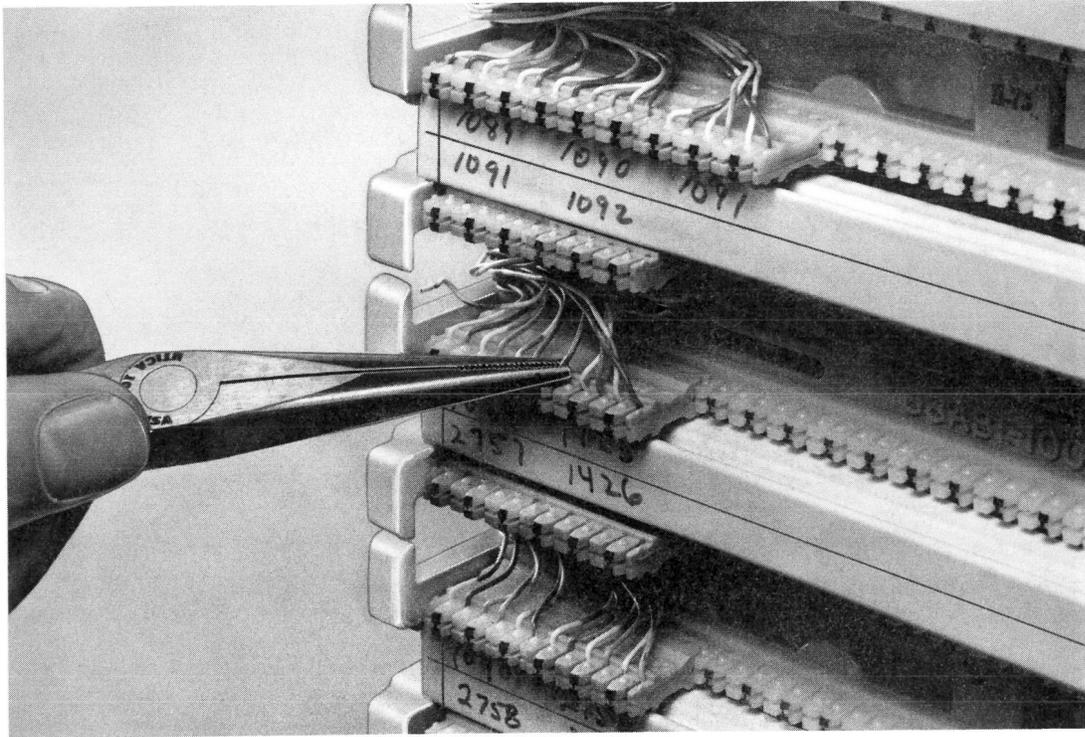

Fig. 26—Removing Cross-Connect Wire
3.23 To remove a cross-connect wire, use long-nose pliers to grip the wire where it enters the connecting block (Fig. 26) and pull straight out. Remove any fragments of insulation remaining on the clip or its cavity using a KS-6320 orange stick.